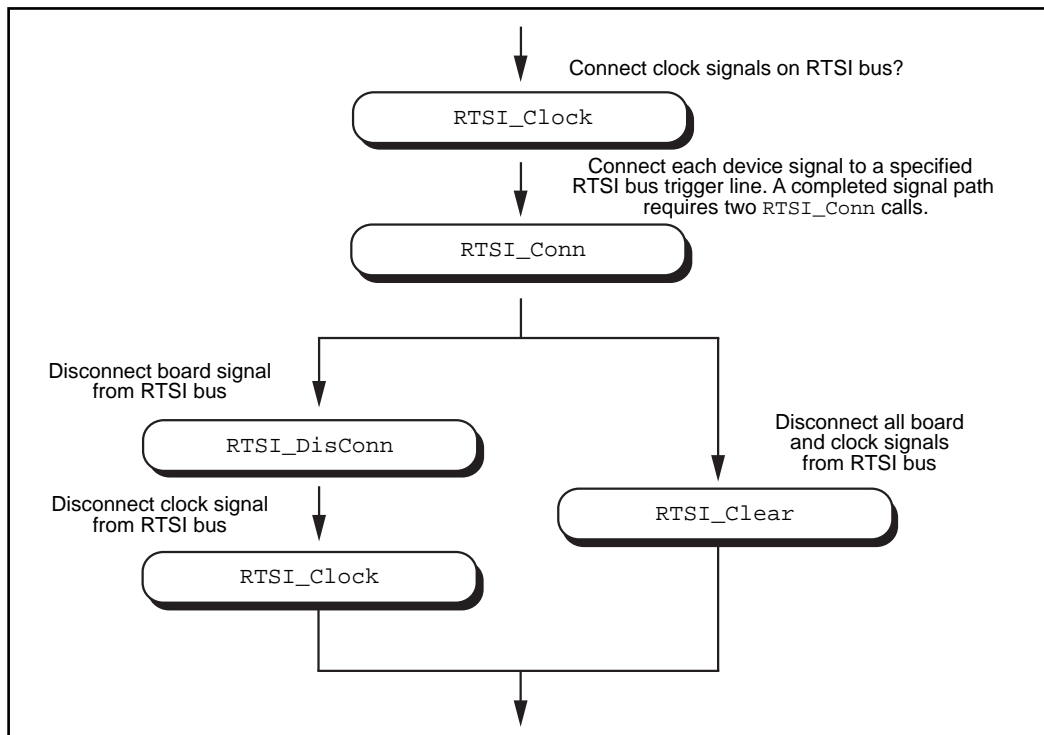

Figure 3-34. Basic RTSI Application Calls
3. Disconnect the signals from the RTSI bus. Figure 3-34 illustrates the normal order of RTSI function calls.